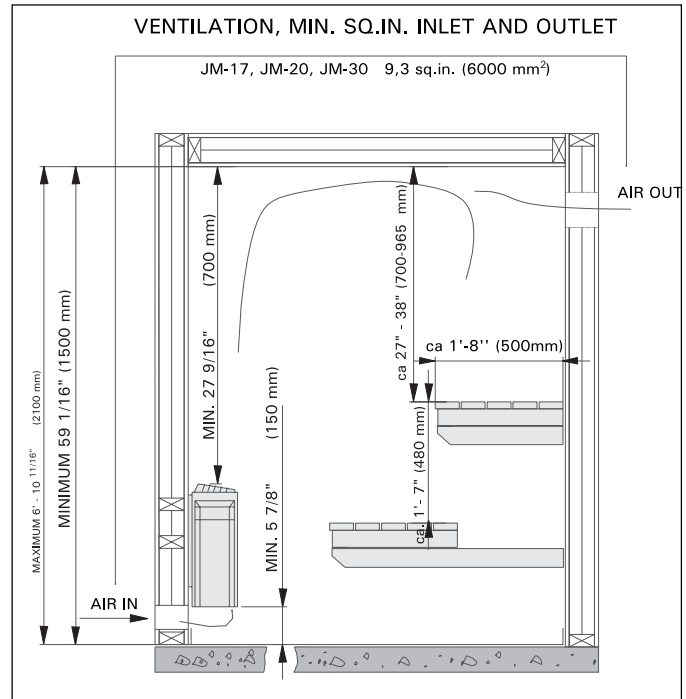

Figure 4. Sauna room
Outlet ventilation openings shall be located at the top of the wall, as close to the ceiling as possible, and shall comply with the minimum size requirements for inlet ventilations openings. See fig. 4.
Table 1. Installation details of a JM heater. See fig. 4 and item 2.3. "Heater output"
**NOTE!** There should be a support, e.g. a board, behind the panel, so that the fastening screws can be screwed into a thicker wooden material than the panel. If there are no boards behind the panel, the boards can also be fastened on the panel. See figure 4.